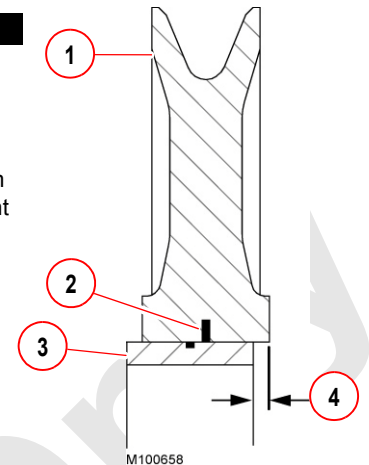

FIGURE 5-15
8. Inspect nylon sheaves to verify they have not separated and “walked off” steel inserts or bearings as shown in Figure 5-15. Maximum sideways displacement is 1/8 in (3 mm). **Replace worn or damaged sheaves.**